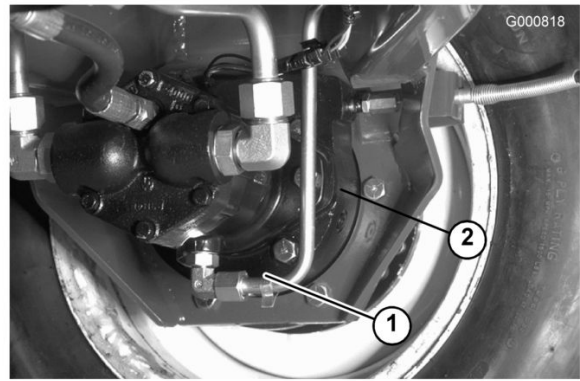

Figure 64
2. Remove the plug on the planetary (Figure 63) and the check plug on the back side of the brake (Figure 64).